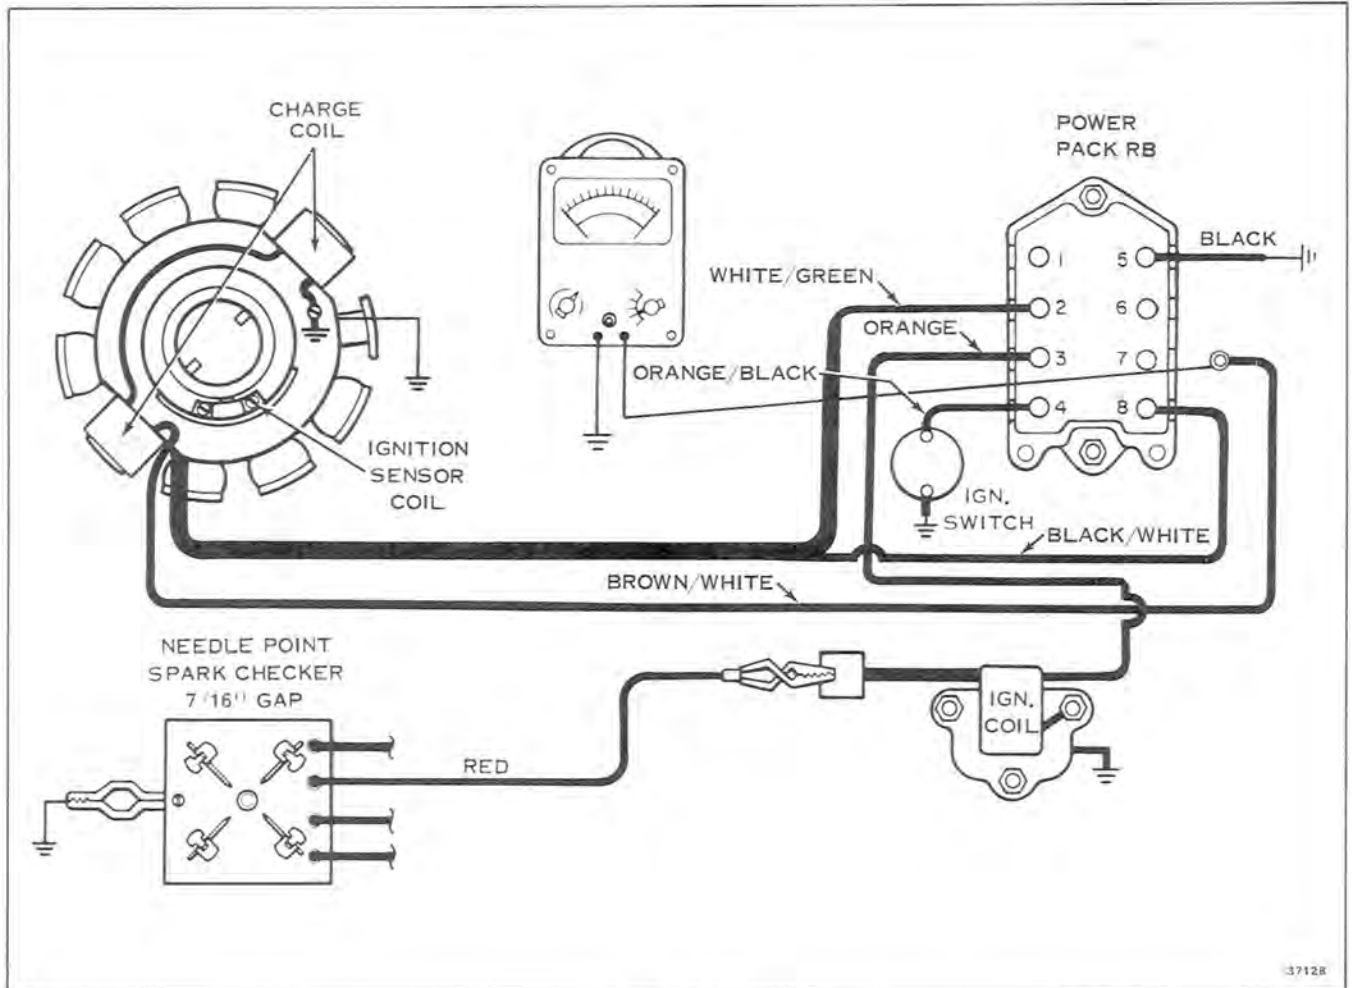

Figure 7-18
- A. Remove the brown/white stripe lead from Power Pack RB terminal #7. Check for a total resistance of the two charge coils from lead to ground of  $875 \pm 75$  ohms. See Figure 7-18. If resistance of the charge coils does not come within these tolerances, they must be replaced.